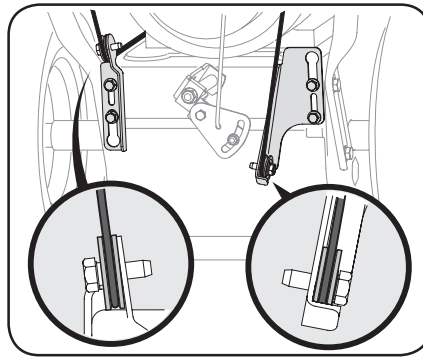

Figure 2-3
4. Observe lower rear area of equipment to be sure both cables are aligned and seated properly in roller guides. See Figure 2-3.